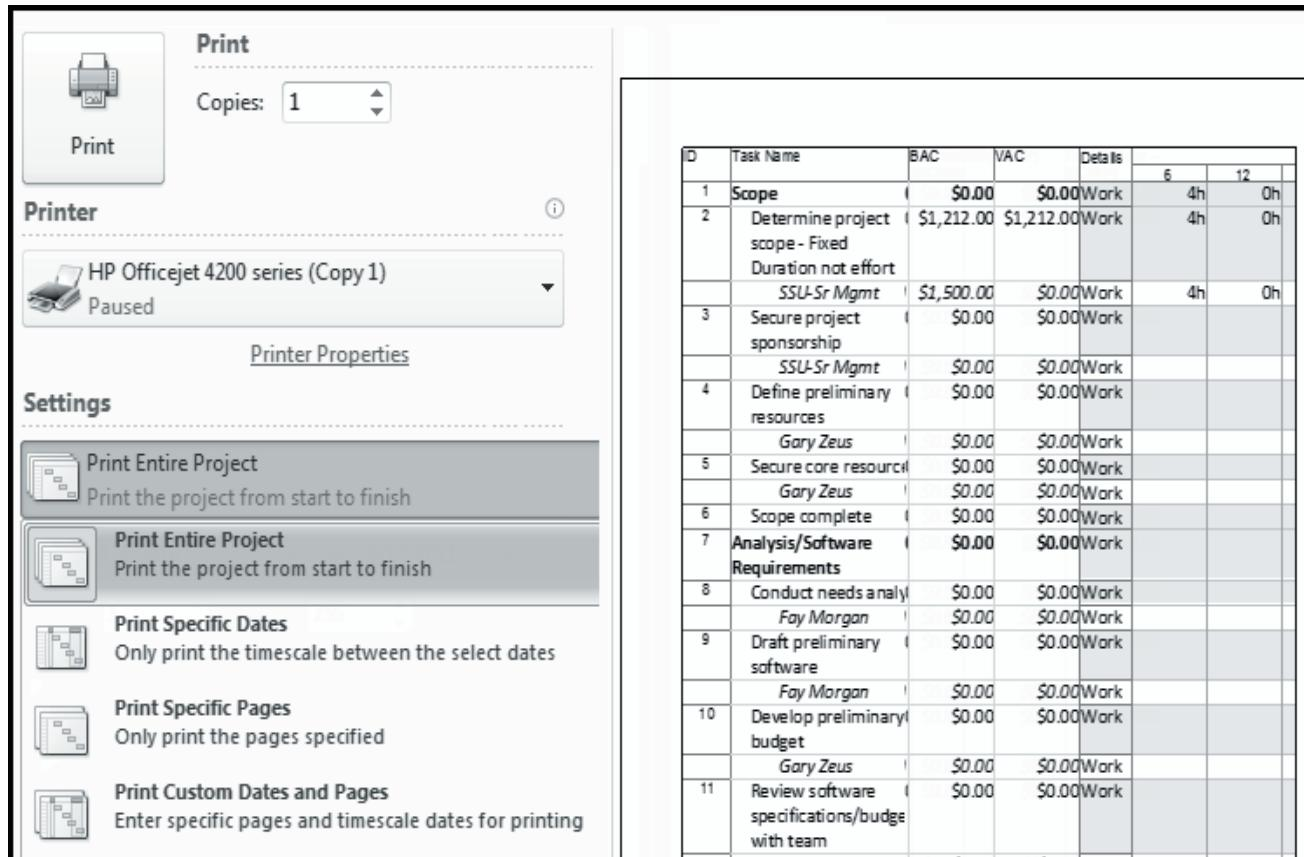

Figure 13.11: Print Options in Backstage View
1. Open the project in any view, and choose **Print** from the Backstage view after clicking **File** tab. This displays the various **Print** options as shown in figure 13.11.